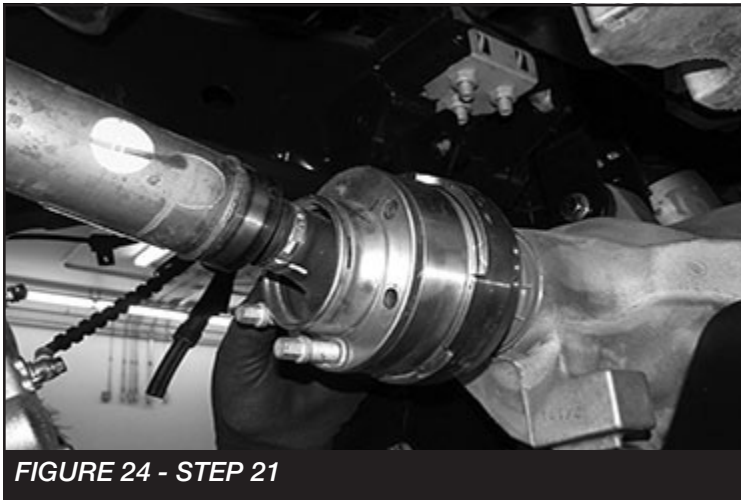

FIGURE 24 - STEP 21
21. Reinstall the front drive shaft with the factory hardware and torque to 35 ft-lbs. **SEE FIGURE 24**